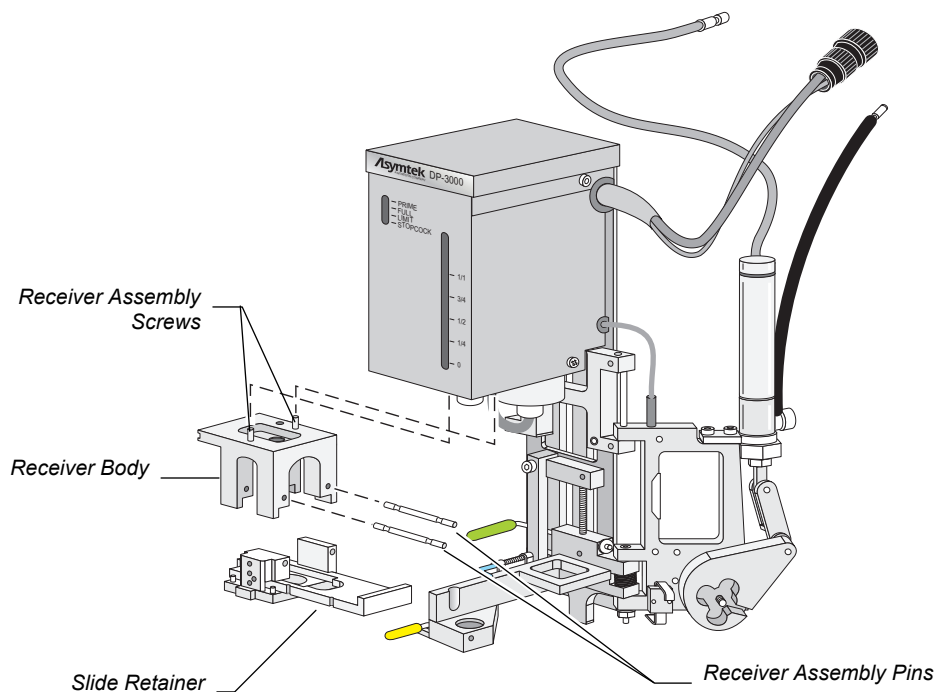

Figure 2-4 Removing the Receiver Body
3. Using a small hex key, remove the receiver assembly pins. See Figure 2-4.